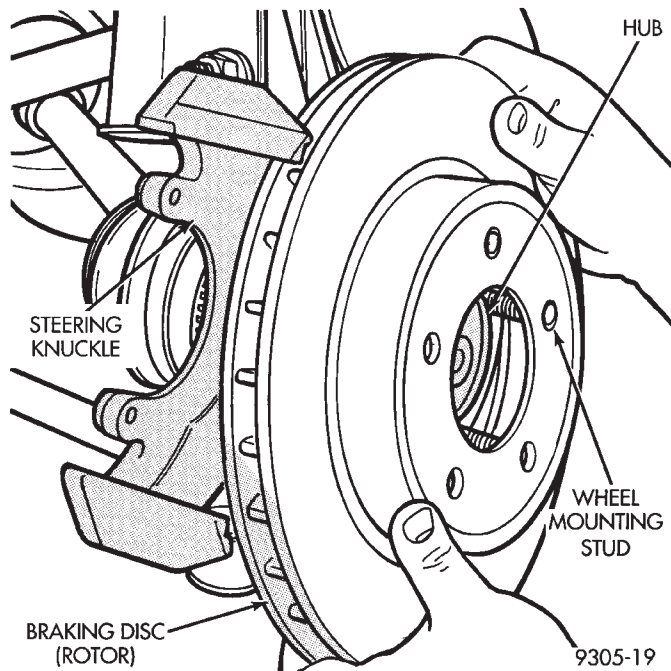

**Fig. 62 Removing Rotor**
(3) Remove rotor from hub by pulling it straight off wheel mounting studs (Fig. 62).
(2) Tighten the wheel lug nut, pulling the wheel stud into the flange of the hub and bearing assembly. When the head of the stud is fully seated against the bearing flange, remove lug nut and washers from wheel stud.
(3) Install the rotor on the hub and bearing assembly (Fig. 62).